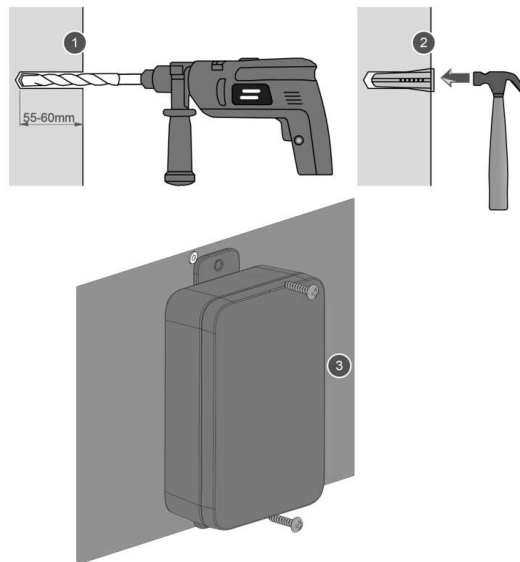

Figure 22: Fixing the enclosure on the wall
3. Lastly, follow the steps below, as also shown in **Figure 22**:
- **Step 3:** Fix the WisBlock Unify Enclosure on the wall using two (2) pieces of ST3.5*35 mm tapping screws.